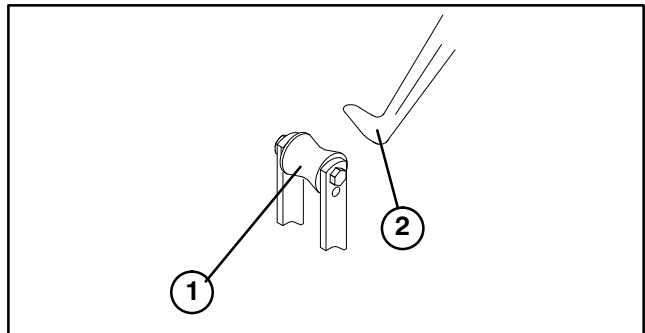

Figure 4
2. Slide tri-roller under traction unit pull frame while hooking lift roller onto lift arm (Fig. 4).